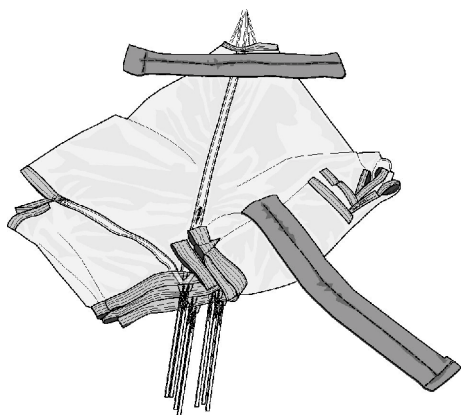

Figure 8. Drogue Parachute Canopy Right Fold
- h. Place one-shot bag across the top of the drogue parachute canopy (Figure 8).
- i. Fold five (5) small canopy panels right side, up and inward. Hold in place with shot bag (Figure 8).